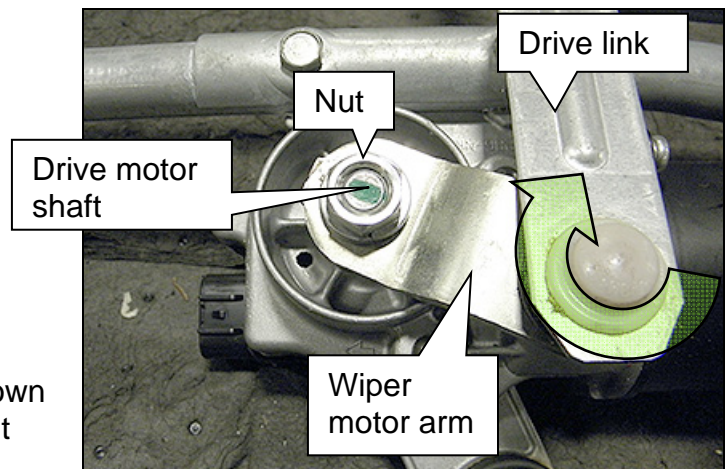

Figure 6
7. Hold the wiper motor arm in the alignment from step 6 and rotate the drive link out of the way to expose the drive motor shaft (Figure 6).
8. Install the lock washer and the wiper motor nut onto the drive motor shaft (Figure 6).